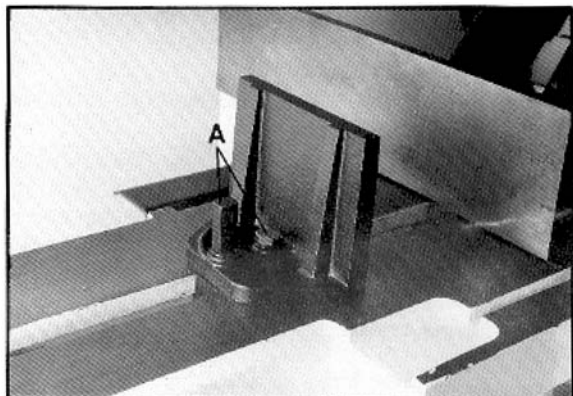

Figure 17
3. Adjust the movable vise parallel to the fixed vise by loosening bolt (A, Figure 17), adjusting to parallel, and tightening bolt.